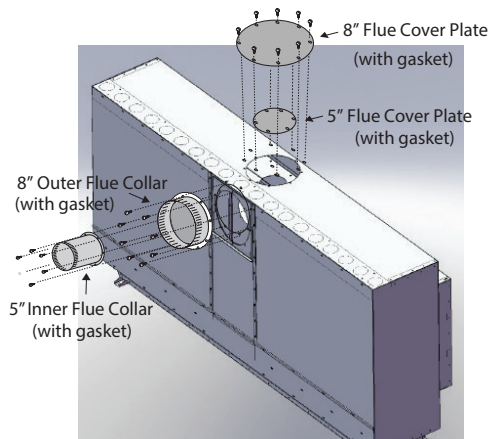

Figure 7a. Flue cover and collar installation, Rear Vented fireplace
3. Install the removed Rear flue cover (5" and 8") to the Top Vent outlet. Fasten the cover with included hardware, as shown in **Figure 7a**.
4. Install the collars (5" and 8") to the rear vent outlet using the included hardware, as shown in **Figure 7a**.